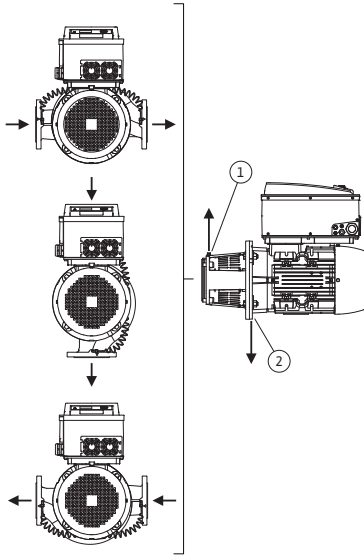
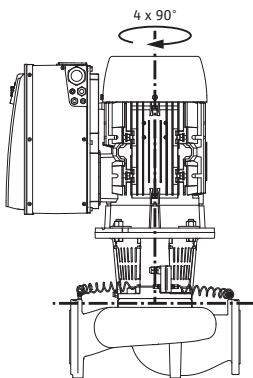

Fig. 18: Permitted installation positions with horizontal motor shaft
Fig. 19: Permitted installation positions with vertical motor shaft
The permitted installation positions with horizontal motor shaft and electronic module facing up (0°) are shown in Fig. 18. The permissible installation positions with electronic module mounted on the side (+/- 90°) are not shown. Any installation position is allowed except for “electronic module facing down” (- 180°). The venting of the pump is only ensured when the air vent valve is pointing upwards (Fig. 18, Item 1). Only in this position (0°) can condensate be directed away via existing drilled holes, pump lantern and motor (Fig. 18, Item 2). Remove the plug from the motor flange.
The permitted installation positions with horizontal motor shaft are shown in Fig. 19. All installation positions except for “motor facing down” are allowed.
- The air vent valve at the lantern (Fig. 6, Item 1.31) always has to be pointed upwards if the motor shaft is horizontal (Fig. 6). If the motor shaft is vertical, any orientation is permitted. See also Fig. 18: "Permitted installation positions with horizontal motor shaft" on page 80 and Fig. 19: "Permitted installation positions with vertical motor shaft" on page 80.